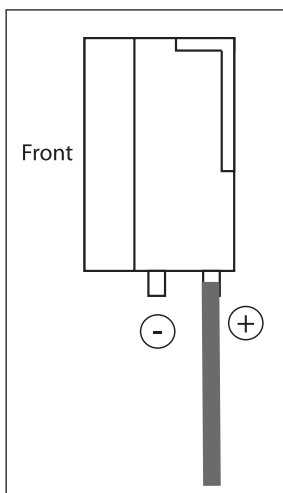

Fig. 5
- Make sure the tube is connected to the proper XTP-Sensor port (+) as shown in fig. 5